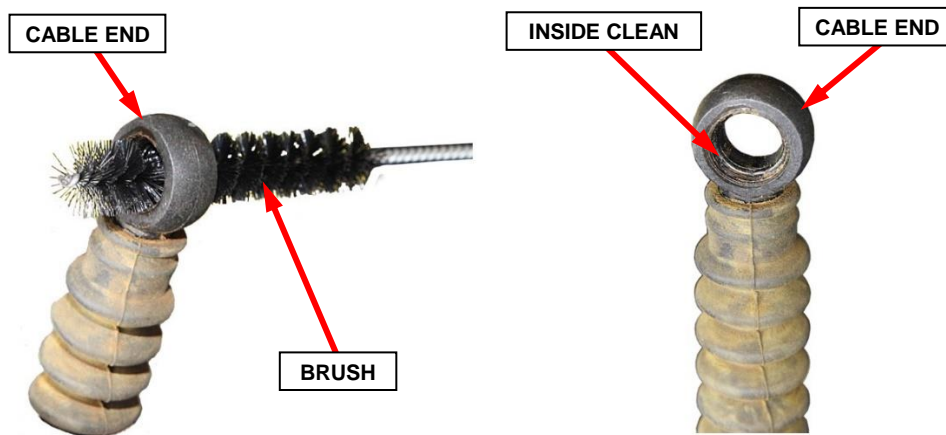

Figure 5 – Clean Cable End
- Use a brush approximately 13 mm (1/2 in) diameter to clean the cable end removing any remaining bushing fragments and debris (Figure 5).
- Ensure the cable end is free of bushing fragments and debris as shown in (Figure 5).